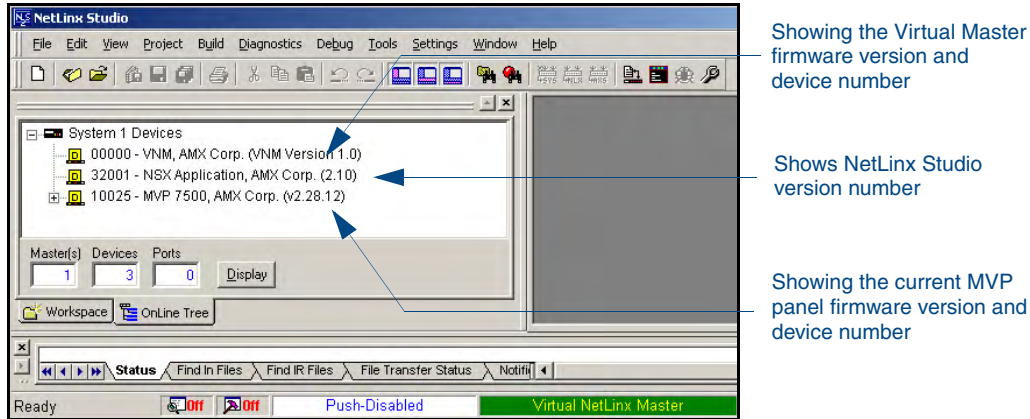

FIG. 37 NetLinx Workspace window (showing panel connection via a Virtual NetLinx Master)
3. After the Communication Verification dialog window verifies active communication between the Virtual Master and the panel, click the **OnLine Tree** tab in the Workspace window (FIG. 37) to view the devices on the Virtual System. *The default System value is one.*
4. Right-click on the System entry (FIG. 37) and select **Refresh System** to re-populate the list. Verify the panel appears in the **OnLine Tree** tab of the Workspace window. *The default Modero panel value is 10001.*